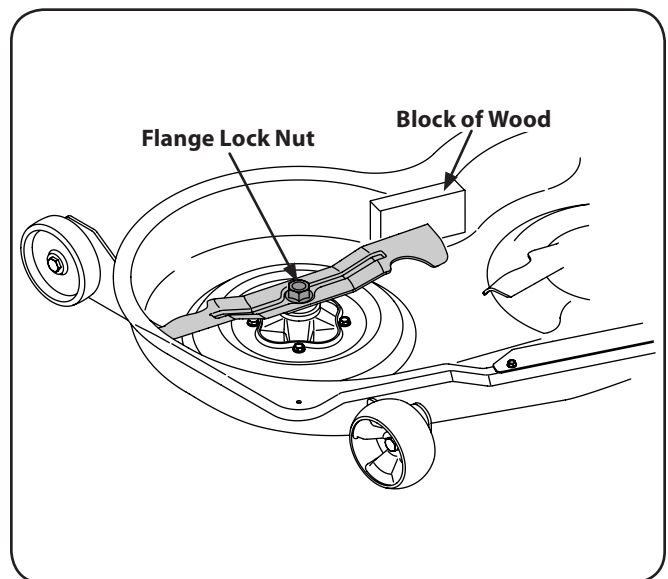

Figure 7-6
- Place a block of wood between the center deck housing baffle and the cutting blade to act as a stabilizer. See Fig. 7-6.
- Remove the flange lock nut that secures the blade to the spindle assembly. See Fig. 7-6.